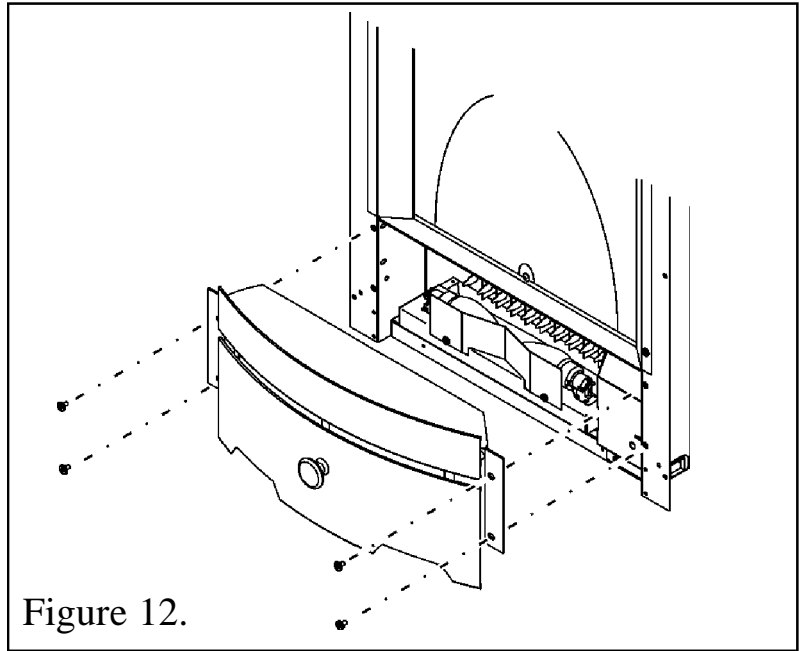

Figure 12.
1. With the fascia trim removed, align the four holes in the firefront assembly with those on the heater (See figure 12). Secure with the four screws supplied.